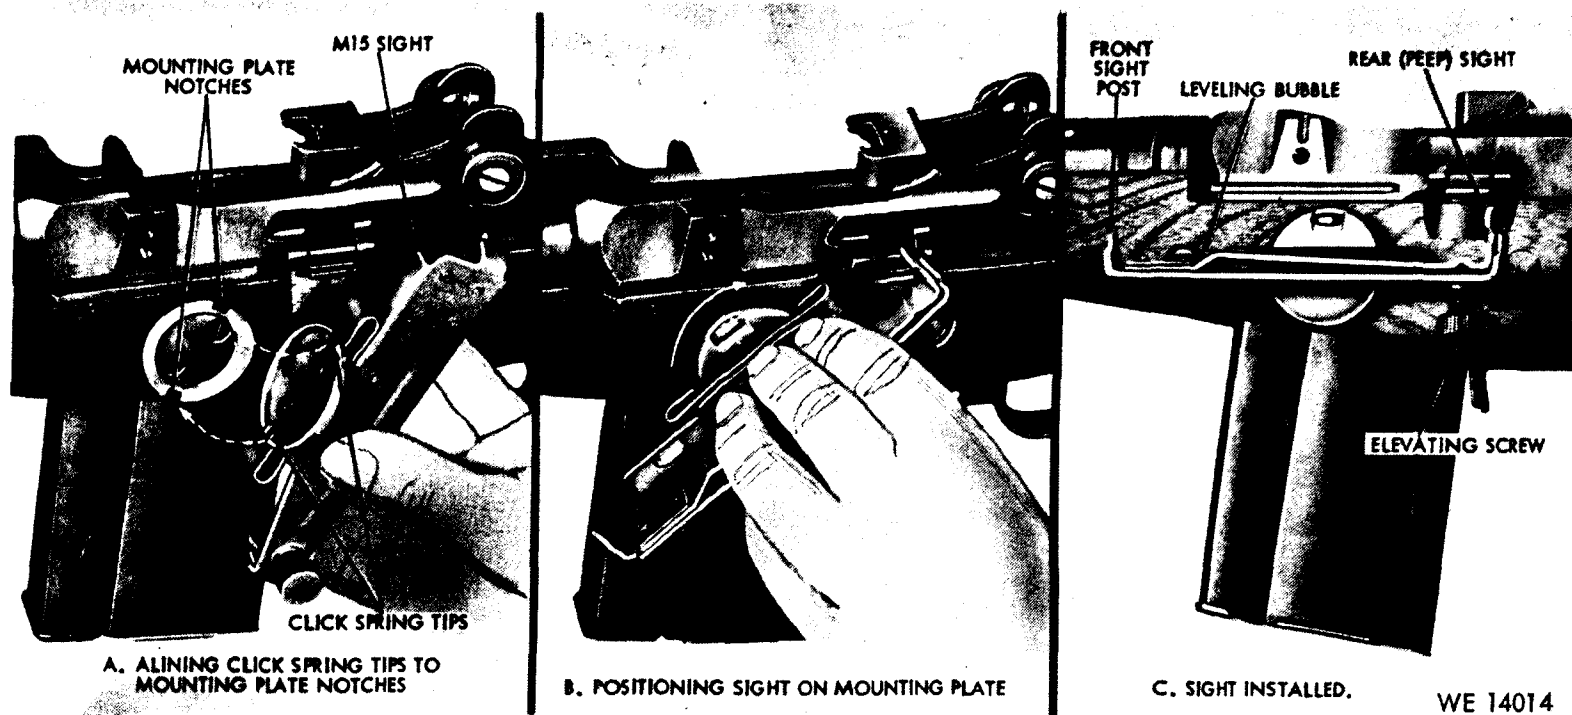

Figure 3-16. Remove/install Grenade Launcher Sight M15.
a. Refer to figures 3-16 through 3-18 and table 3-6.